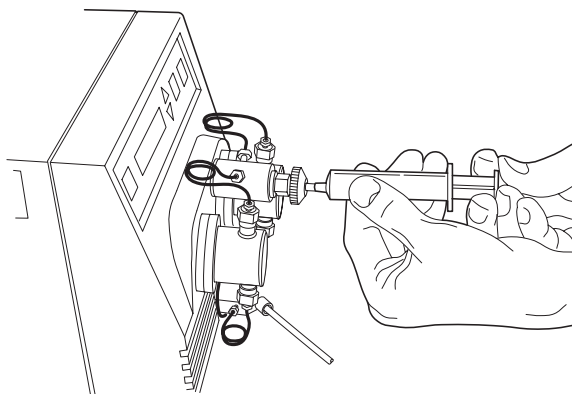

Figure 3-4 Priming the Pump
2. Fully depress the priming syringe plunger to remove all air from the syringe, then insert the syringe into the luer fitting at the center of the draw-off valve handle (see Figure 3-4).